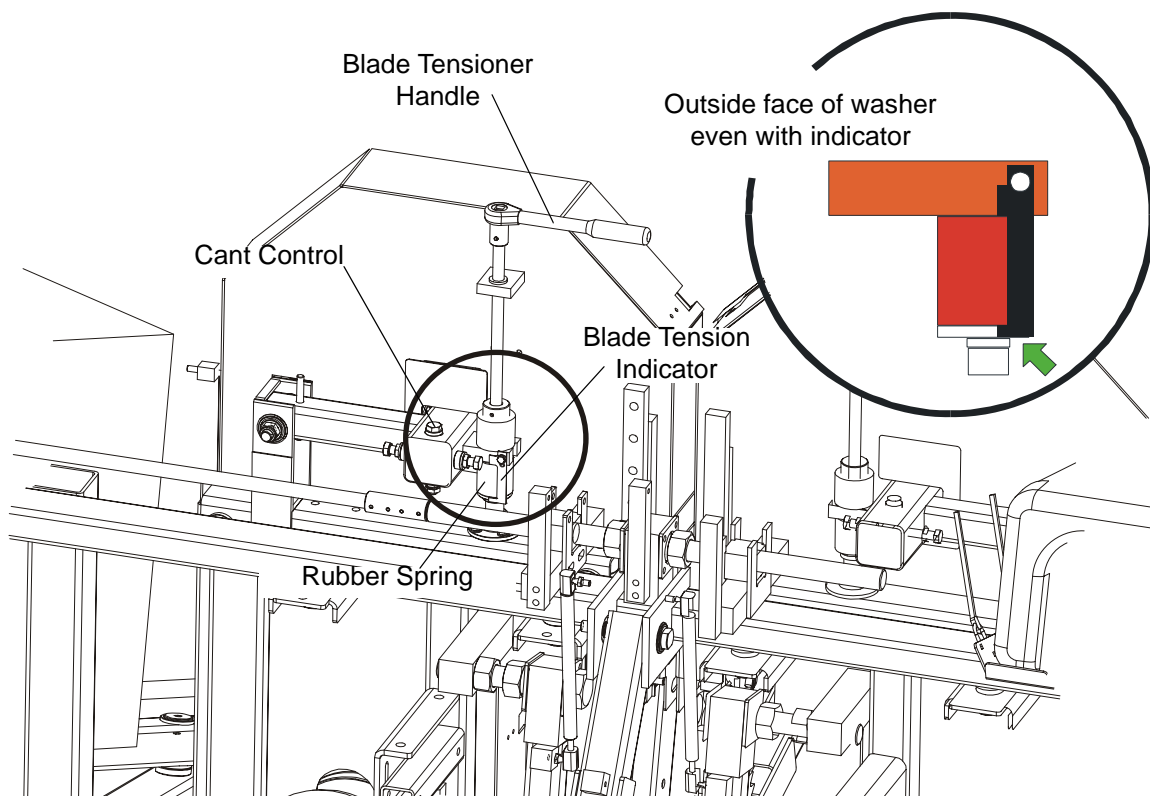

FIG. 2-3
See **Figure 2-3**. Place the provided handle on the blade tensioner shaft. Turn the handle clockwise until the outside face of the rubber spring washer is even with the indicator (see the figure below). Check the blade tension occasionally when adjusting the cant control or while cutting and adjust if necessary. As the blade and belts heat up and stretch, the blade tension will change. Also, ambient temperature changes can cause tension to change.
5. Use the cant adjustment bolt, shown in **Figure 2-3**, to adjust where the blade travels on the blade wheels.